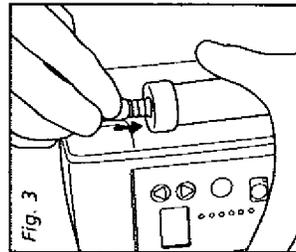

Fig. 3
7. Attach upper air tube from Vapotherm 2000i to top of cartridge (Fig. 3). Make sure tubing is not kinked.
1. Press the Power button only, to start in NORMAL MODE (Fig. 3).